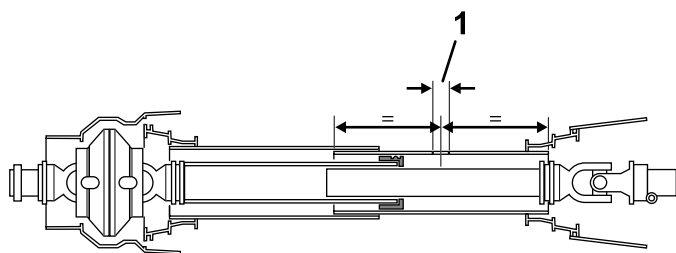

Figure 19
9. Drill a 25 mm (1 inch) hole on the inner guard tube through 1 wall only, and remove all burrs (Figure 19).